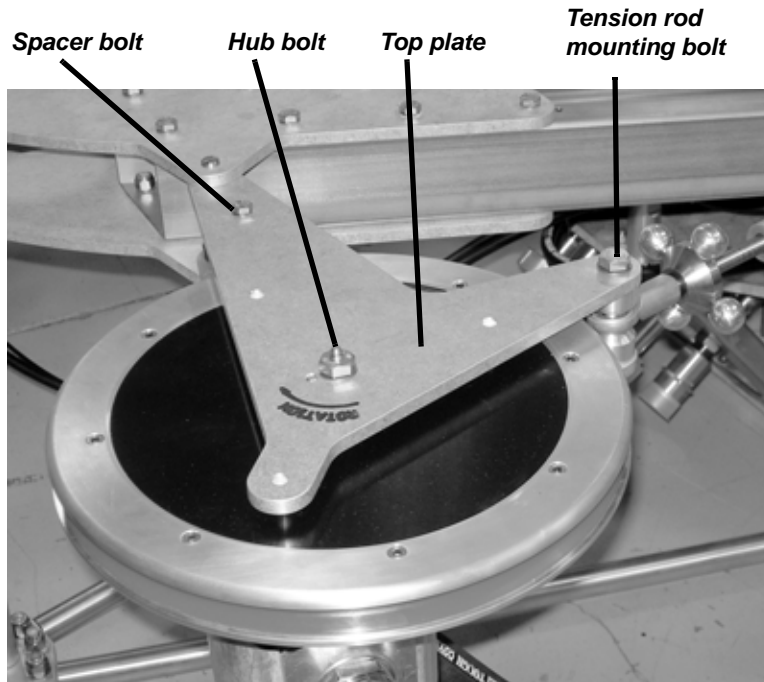

Figure 4-18. Remove the nut (on the bottom) of the tension rod mounting bolt, and remove the bolt.
4. Remove the hub bolt and spacer bolt from the wheel assembly, as shown in Figure 4-18. Be careful not to lose the spacer.